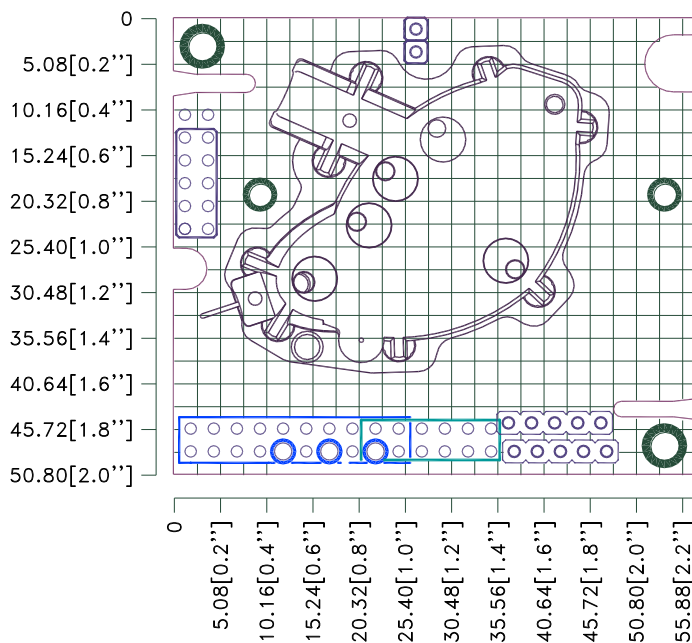

Figure 2. *CO2 Engine® K30 FR* OBA position.
The table below specifies what terminals and I/O options are available in the general **K30** platform (see also the layout picture Fig. 2). Please note, however, that in the **CO2 Engine® K30 FR** default configuration, only OUT1, OUT2, Din1, Din2 and Status have any pre-programmed functions. These are described in the chapter “Default Configuration”.
The modules are factory calibrated and ready for use directly after power up. There are several alternative ways to connect the *CO2 Engine® K30 FR* to a host system (see also figure 2):
- The two screw points in the upper left corner (having the IDC and edge connectors faced downwards, as in Figure 2) are connected to the *analogue* ground. They are the preferred choice for connection to some EMI shield, if so is required. This is normally necessary only if the application is such that large EMFs are foreseen. If this option is being used, precaution must be taken so as to exclude any power supply currents! Sensor reading instability is an indication of the need for shielding, or of improper enclosure system groundings.